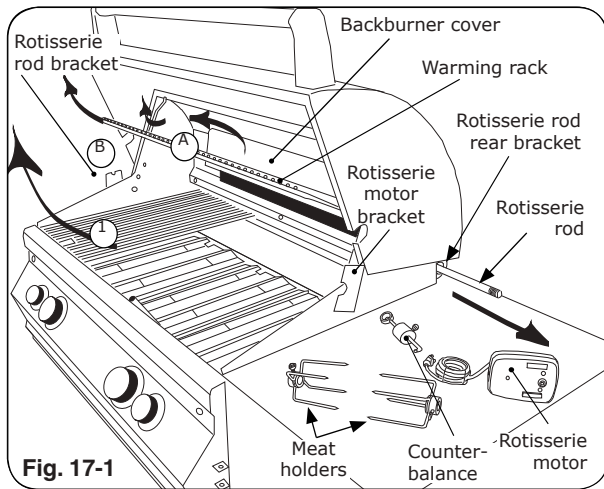
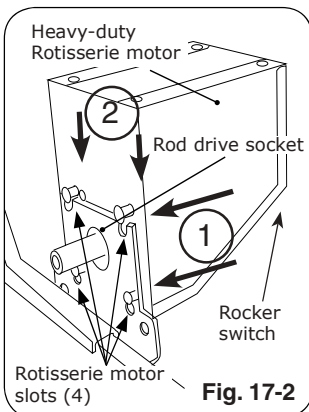
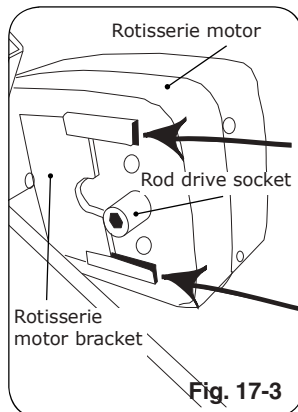

Fig. 17-1
Fig. 17-2
Fig. 17-3
2. Slide rotisserie motor fully onto motor bracket (right side, Fig. 17-2 or Fig. 17-3, and Fig. 17-1).
3. Remove rotisserie rod from rear bracket (Fig. 17-1).